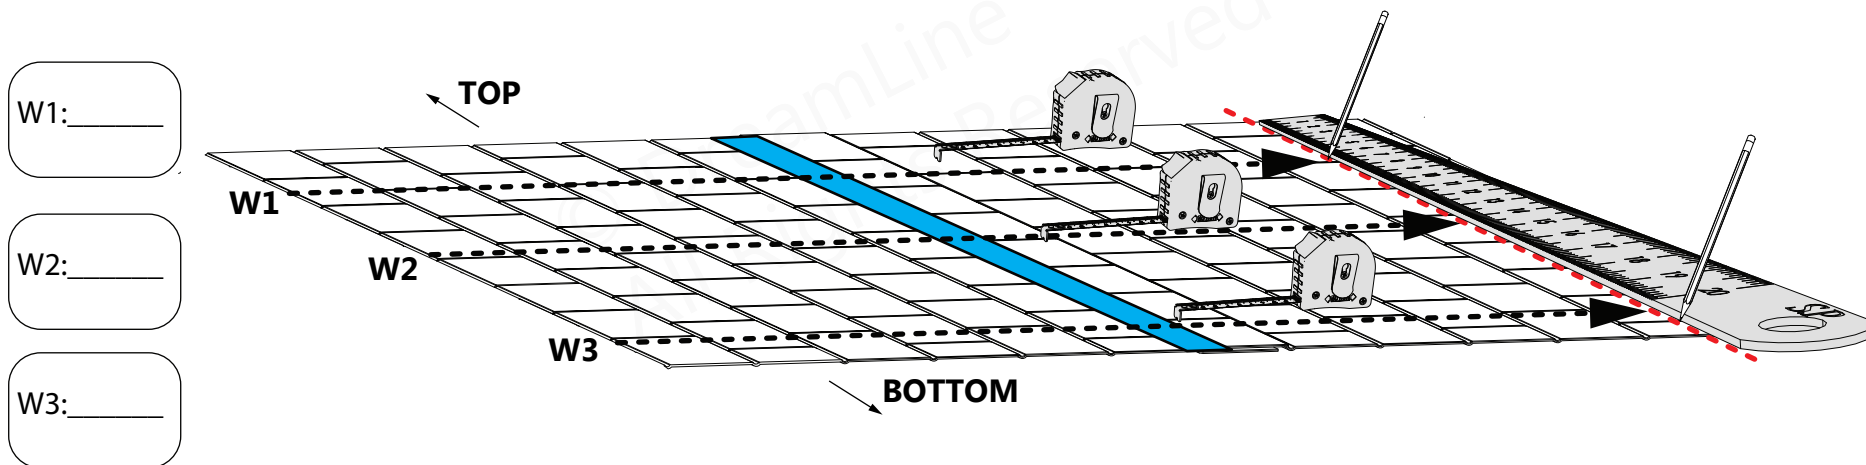

Fig 4
- 4.** Transfer the measurements from Step #2 to the back Q-Wall Back Panels. Measure out from one side to mark the Q-Wall Back Panels, using a straight edge to mark a cut line. The overlap does not need to be centered. **Fig 4**